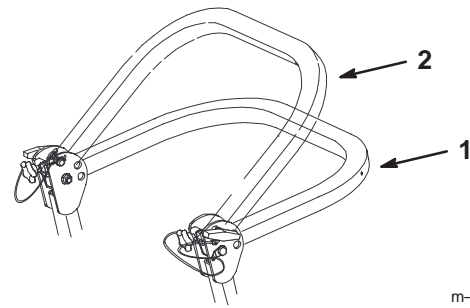

Figure 2
3. Lower the the roll bar to the down position. There are two down positions. See Figure 2 for the positions.